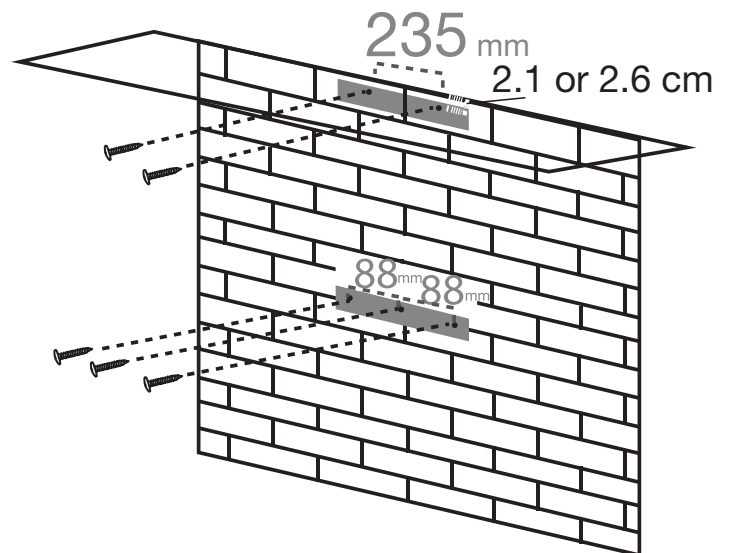

Figure 1
- The range hood will be installed on top of this bracket (see Figure 1).